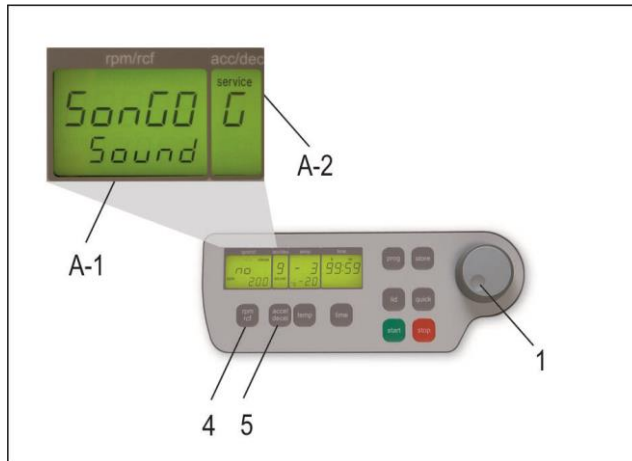

Figure 8
Proceed as illustrated, under point 1.8.1, to enter this program mode, press the key, "accel/decel" (5). In the display, "accel/decel" (A-2) flashes the word, "service". Select the letter, "G" with the adjustable knob (1). As a result, appearing in the display, "rpm/rcf" (A-1), the word "SonGo/Sound". After pressing the key „rpm/rcf“ (4), select a song with the adjusting knob (1), (see Figure 8).